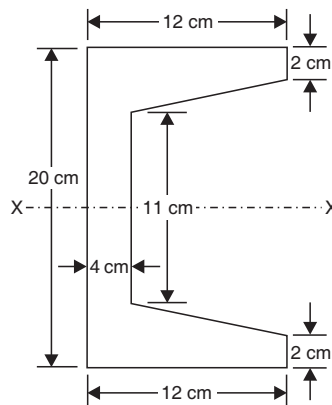

Fig. 5.38
7. Find  $I_{xx}$  of the channel section shown in Fig. 5.38. [Ans.  $I_{xx} = 6300 \text{ cm}^4$ ]